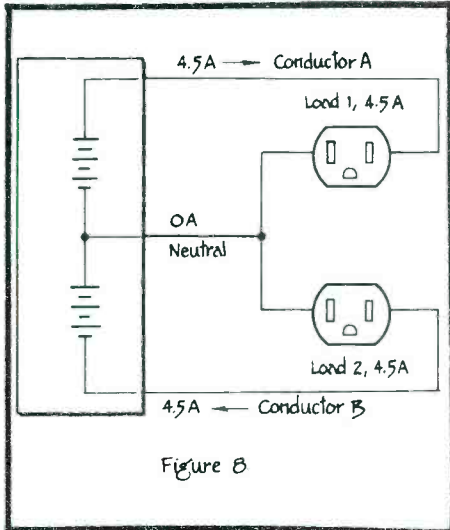

Figure 8
Figures 8 and 9 show a typical 3 wire system, where the two separate hot lines share a common neutral conductor. The mechanics may be a little easier to understand if a direct current (DC) system is considered first.
In Figure 8 conductor A is positive and conductor B is negative. The neutral maintains a potential halfway between A and B and is negative with respect to A and positive with respect to B. The